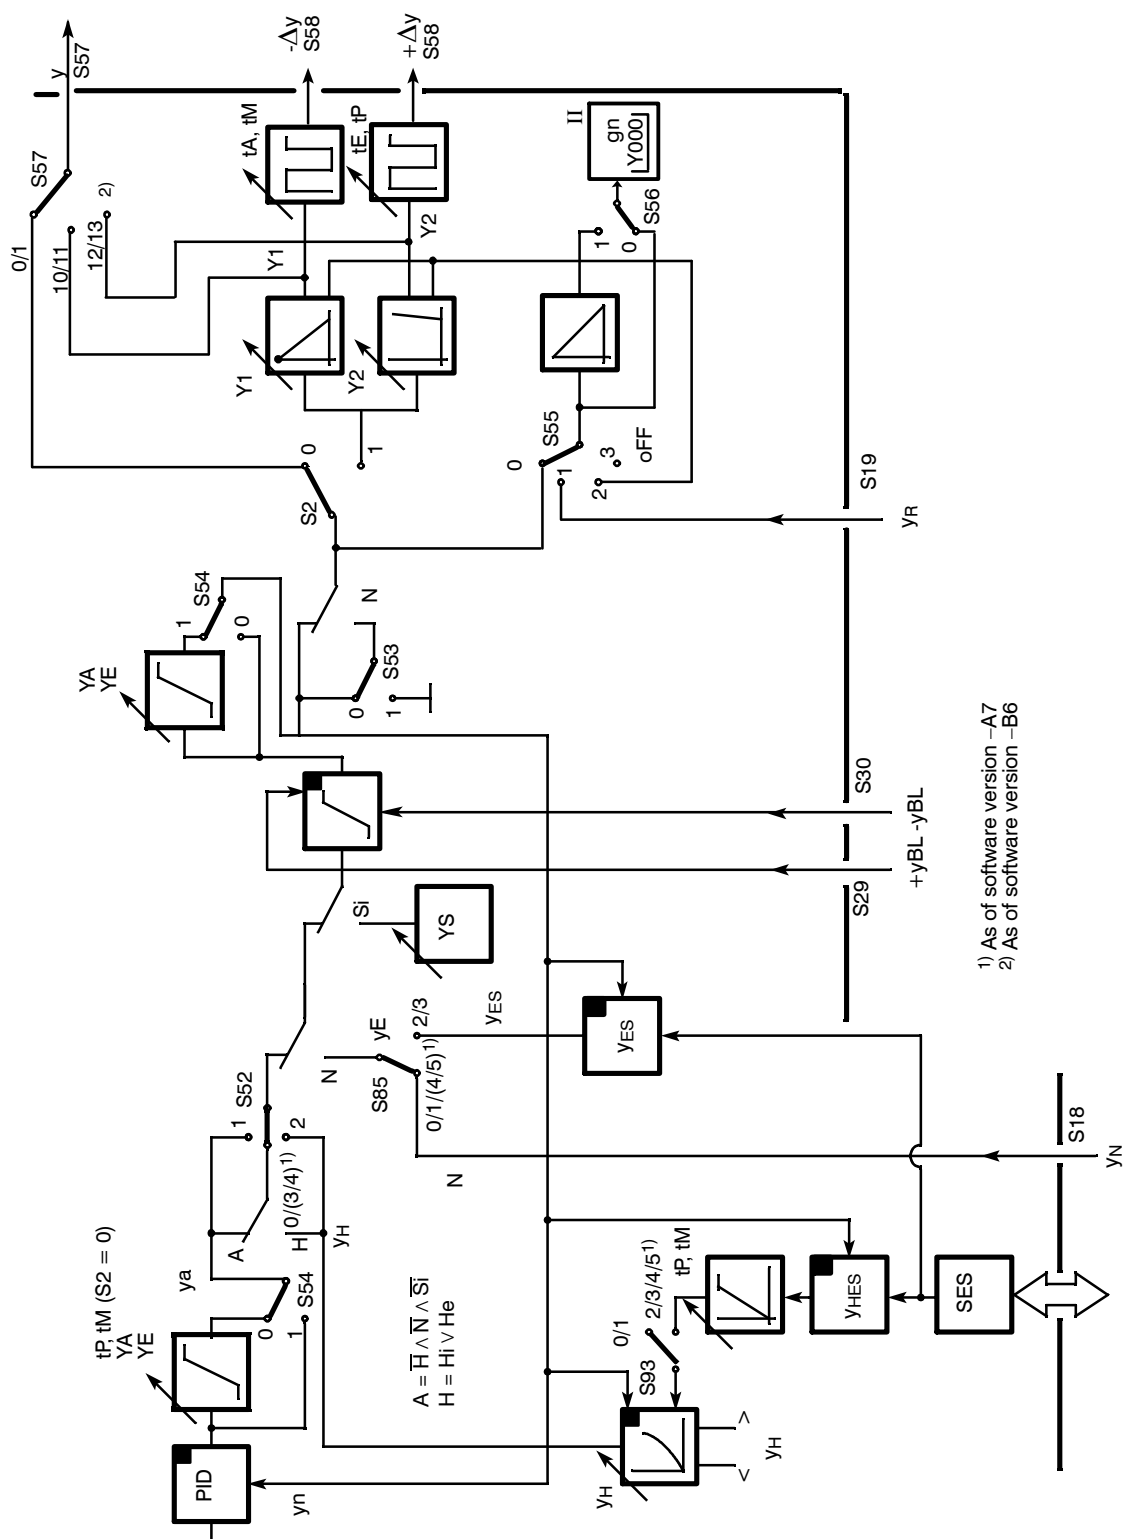
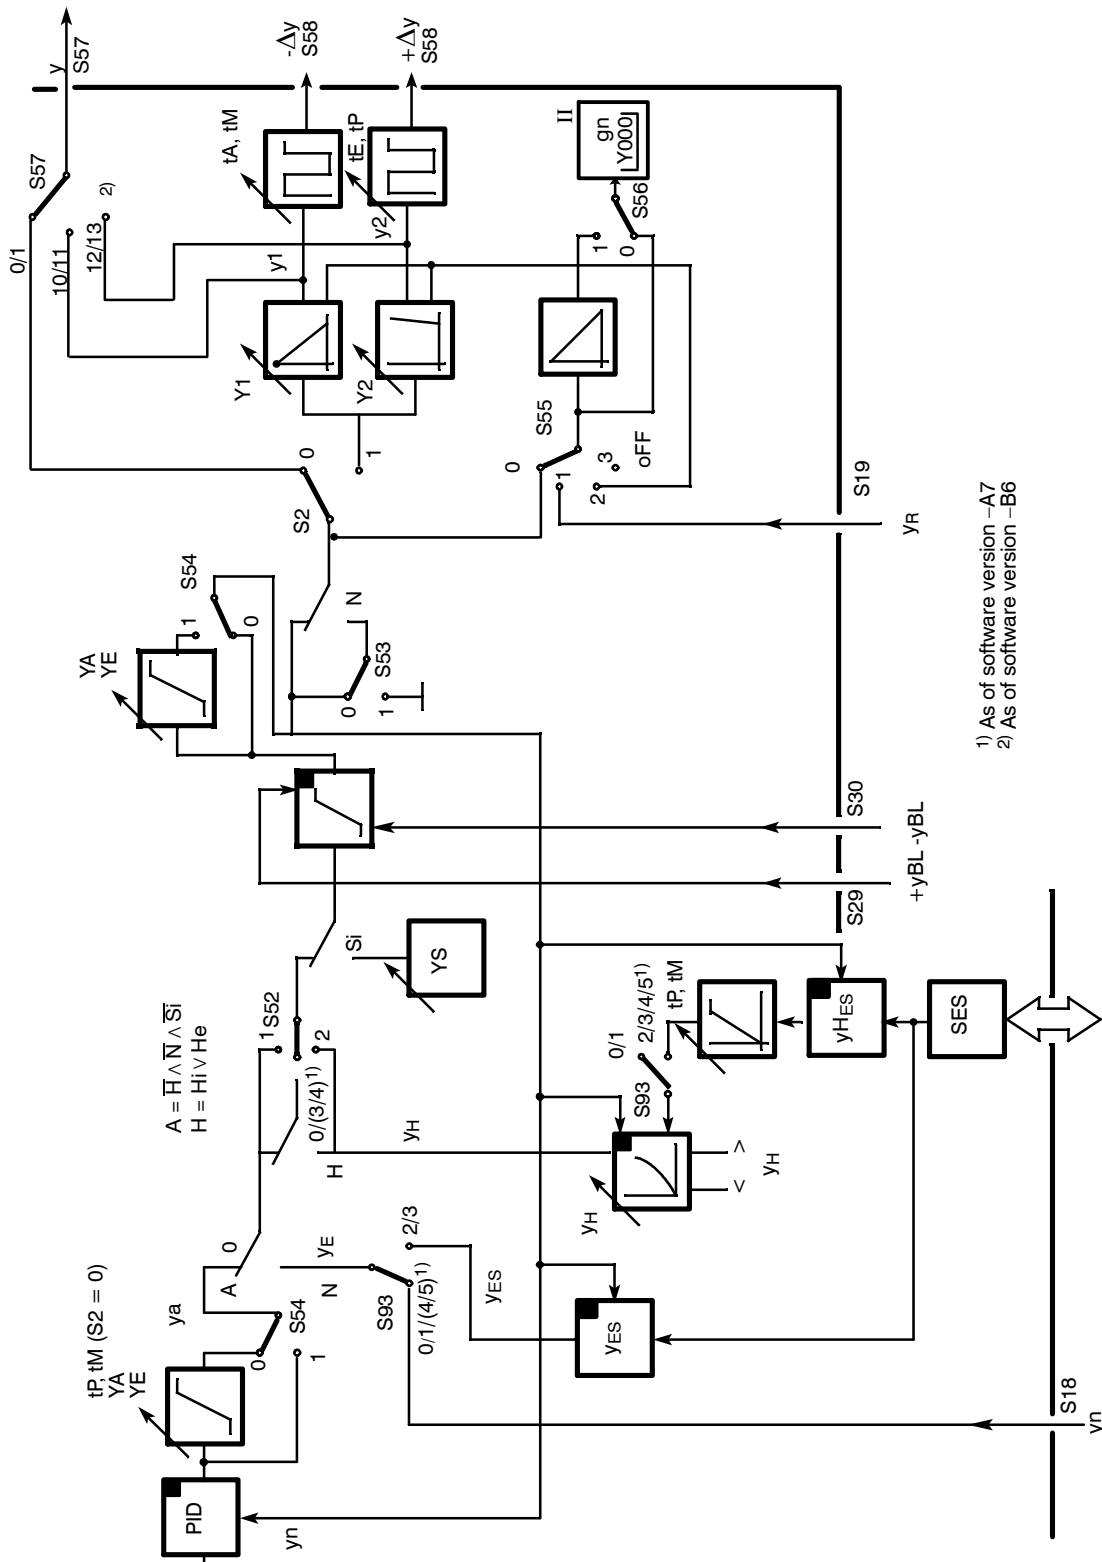

Figure 3-24 Block diagram K-controller S2 = 0 or two-position output S2 = 1
Figure 3-25 Block diagram K-controller S2 = 0 or two-position output S2 = 1
- **S2=0: Continuous (K) controller** (figure 3-24, page 103 and figure 3-25, page 104)
This output structure is identical to the K-output structure in its switching options (see figure 3-24, page103 and figure 3-25, page104).